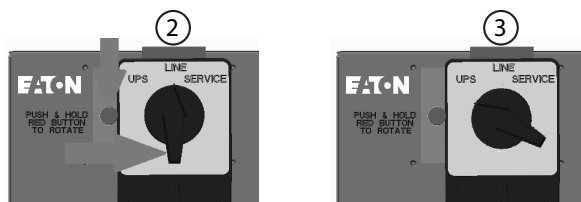

Figure 23. From LINE to UPS
2. To transition the UPS from LINE to UPS, press and hold the red button and turn the switch to UPS (see Figure 23).